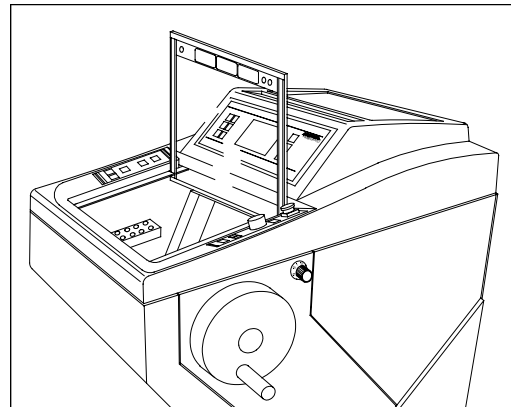

Fig. 131
- Then swivel the window upwards and slightly move it backwards. Then insert it into the anchorage of the guide rails (fig. 131).